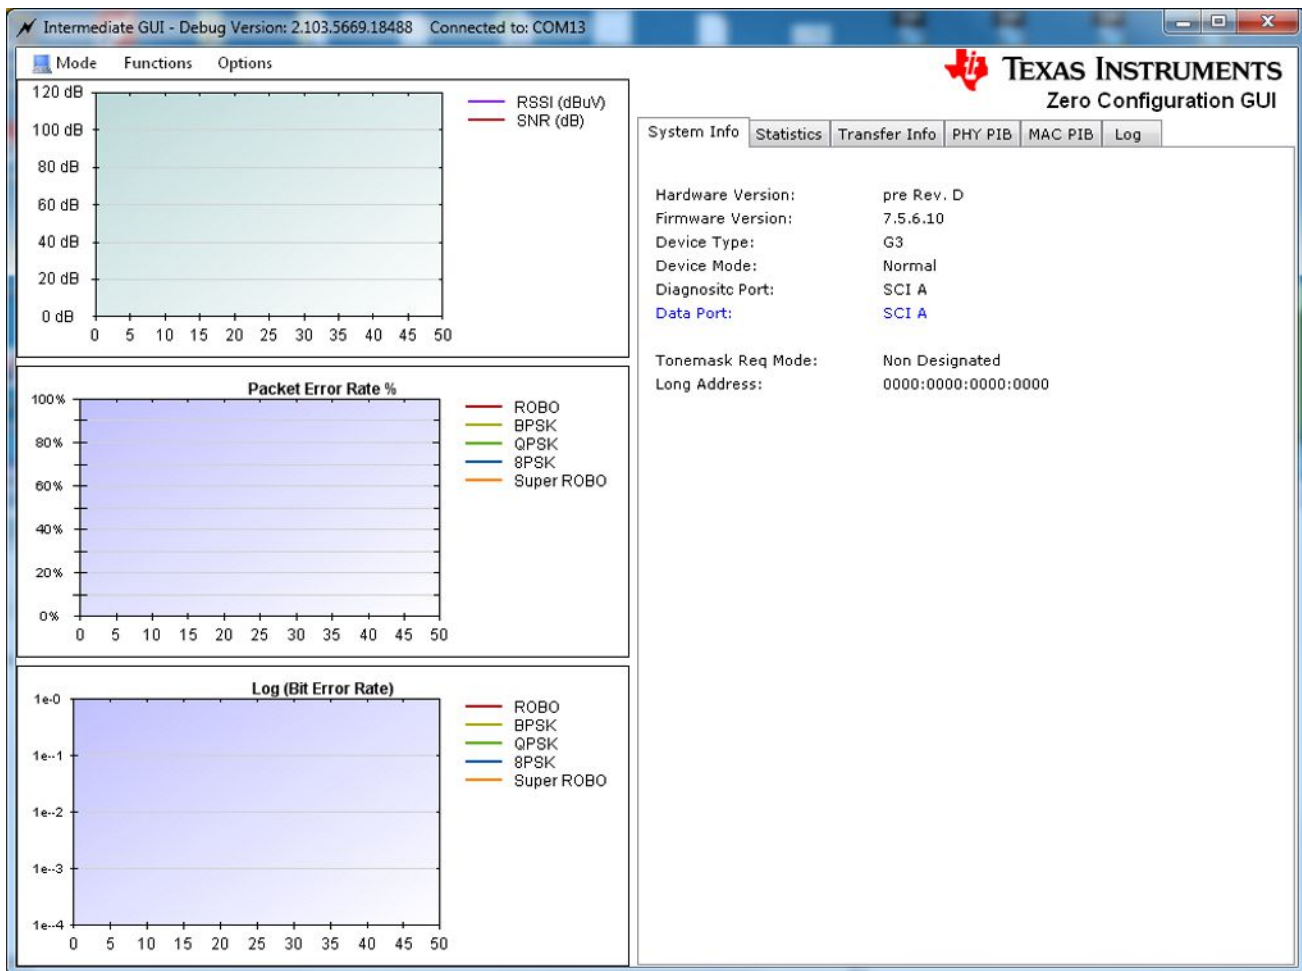

Figure 5. Intermediate GUI
- (b) Open the Intermediate GUI on the PC (see Figure 5).